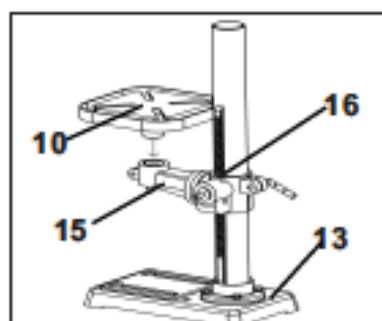

Fig 3b
2. Slide the Table Support(15) over the Column(7). It will slide easily into position so do not use force.
3. Install the Work Table(10) onto the Table Support(15). Make sure the Work Table(10) will rotate 360°. (Fig 3b)